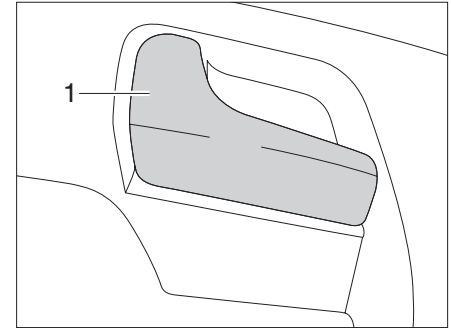

Fig. 26 Door lock of driver's door, inside
- Pull on the handle (Fig. 26,1). The door lock is unlatched.